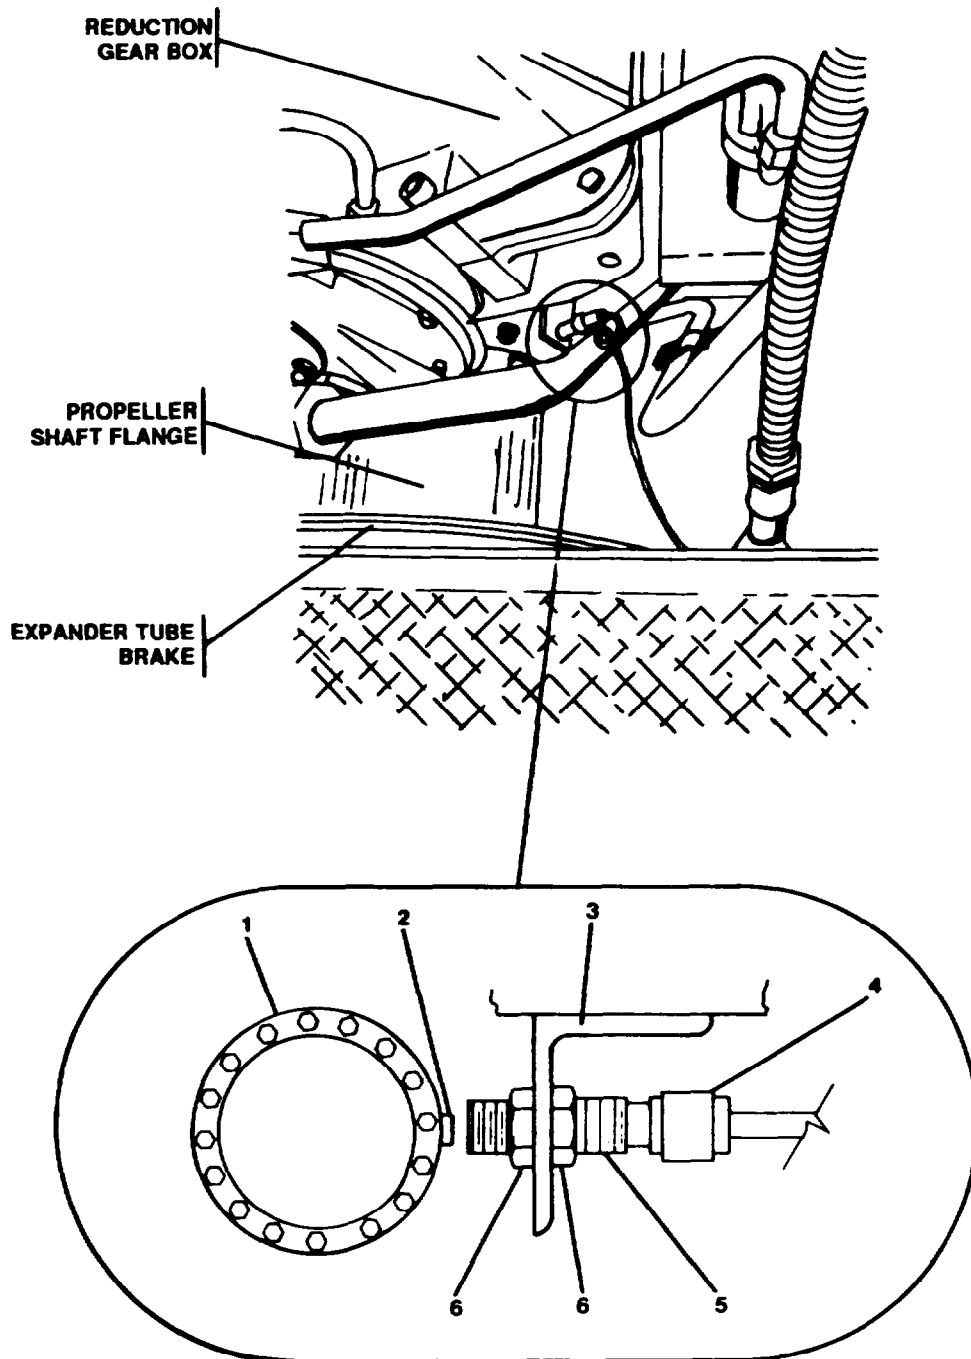

FIGURE 2-231. Motional Pickup Transducer.
- (1) On ENGINE RM DC PNL EP024, use fuse puller and remove appropriate fuse cartridge #13, SFT TACH (STBD) or #14, SFT TACH (port) to remove 24 Vdc power from shaft tachometer circuit.
- (2) Disconnect connector assembly with cable (4, FIGURE 2-231) from motional pickup transducer (5).
- (1) Position replacement motional pickup transducer (5, FIGURE 2-231) with jam nuts (6) in pickup mounting bracket (3).
- (2) Using machine rule, measure and position motional pickup transducer (5) to gap measurement between pickup sensing lug (2) on shaft flange (1) and end of motional pickup transducer (5) recorded in DISASSEMBLY step a.(3). Secure jam nuts (6) ensuring gap distance is not disturbed.
- (3) Connect connector assembly with cable (4) to motional pickup transducer.
- (4) On ENGINE RM DC PANEL EP024, use fuse puller and install appropriate fuse cartridge #14, SFT TACH (port) or #13, SFT TACH (STBD).
- (5) Adjust motional pick transducer (5).
- (1) Position appropriate arbitrary scale meter (2, FIGURE 2-231) in wheelhouse console and secure with mounting screws (1 and 3) and mounting hardware on bottom of console.
- (2) From bottom of console, connect wiring to meter (2) terminals (5, 6, 8 and 9). Remove tags.
- (3) Turn on 24 Vdc supply to dimmer rheostats (7).
- (4) On ENGINE RM DC PNL EP024, using fuse puller, install appropriate fuse cartridge #14, SFT TACH (port) or #13, SFT TACH (STBD).
- (5) Request operations to start main engine and engage shaft in AHEAD and ASTERN, and observe arbitrary scale meter (2, FIGURE 2-231) for correct shaft direction indication.